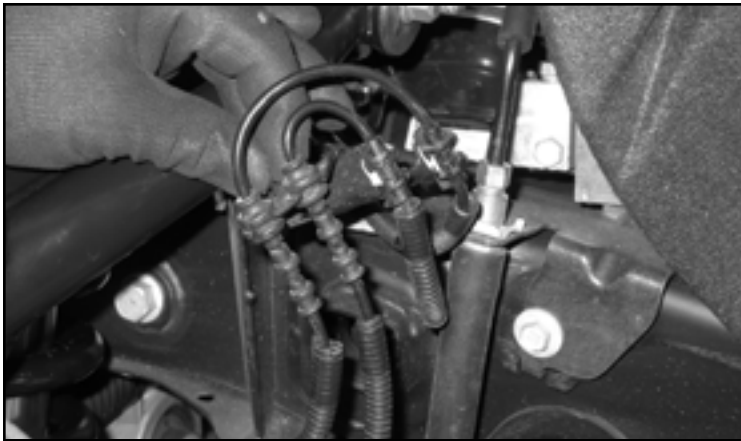

FIGURE 22 - STEP 21
21. Remove the ABS bracket from the lines and discard. Secure the ABS lines to the frame using a zip tie. **SEE FIGURES 22**